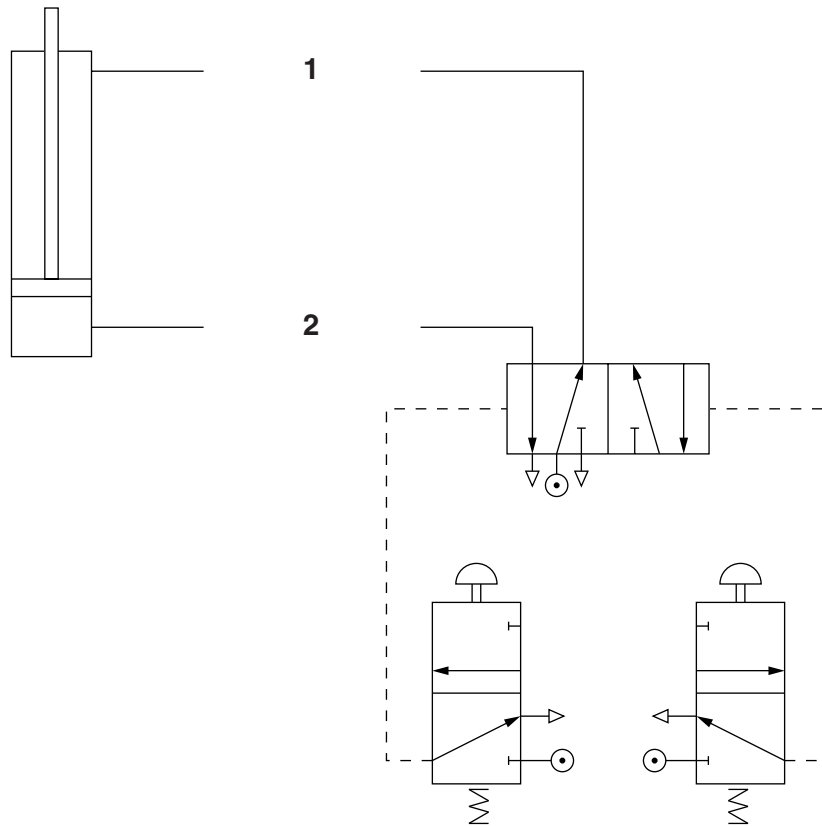
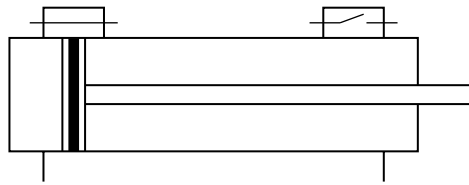

Fig. 4
Fig. 5
- 18 Fig. 4 shows a test circuit to control the cylinders on the 'rodeo bull'. To comply with health and safety requirements, it must be possible to control the instroke and outstroke speed of the cylinders.
- (a) (i) Name the component that should be inserted at positions **1** and **2** on Fig. 4.
(b) Fig. 5 shows a reed switch cylinder used at the development stage of the circuit shown in Fig. 4.